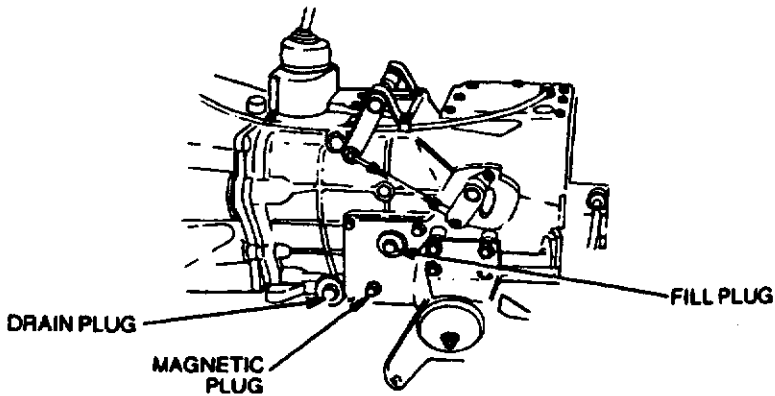

Figure 3-7 Transmission Drain and Fill Plugs
**327.** The transmission fill plug is adjacent to the drain plug (see Fig. 3-7). Fill the transmission with the recommended lubricant to the bottom of the fill hole.